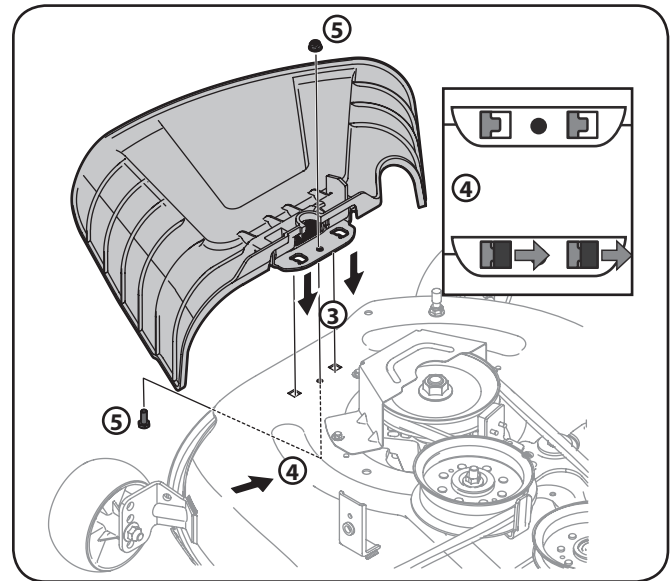

Figure 3-5
3. Place the chute deflector on the deck, be sure to insert the tabs on the chute deflector into the holes on the deck. See Figure 3-5.
4. When the tabs are installed in the deck, slide the chute deflector toward the rear of the tractor until the bolt hole in the chute deflector aligns with the hole in the deck. See Figure 3-5.
5. Secure the chute deflector in place with the flange lock nut and hex screw removed in step 2. Tighten to 102-124 in-lbs. See Figure 3-5.